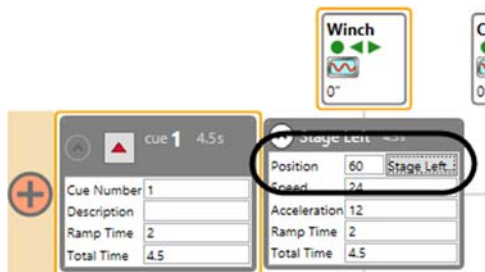

Figure 300
8. The selected Spike will display in the motor's movement for the cue (Figure 300).